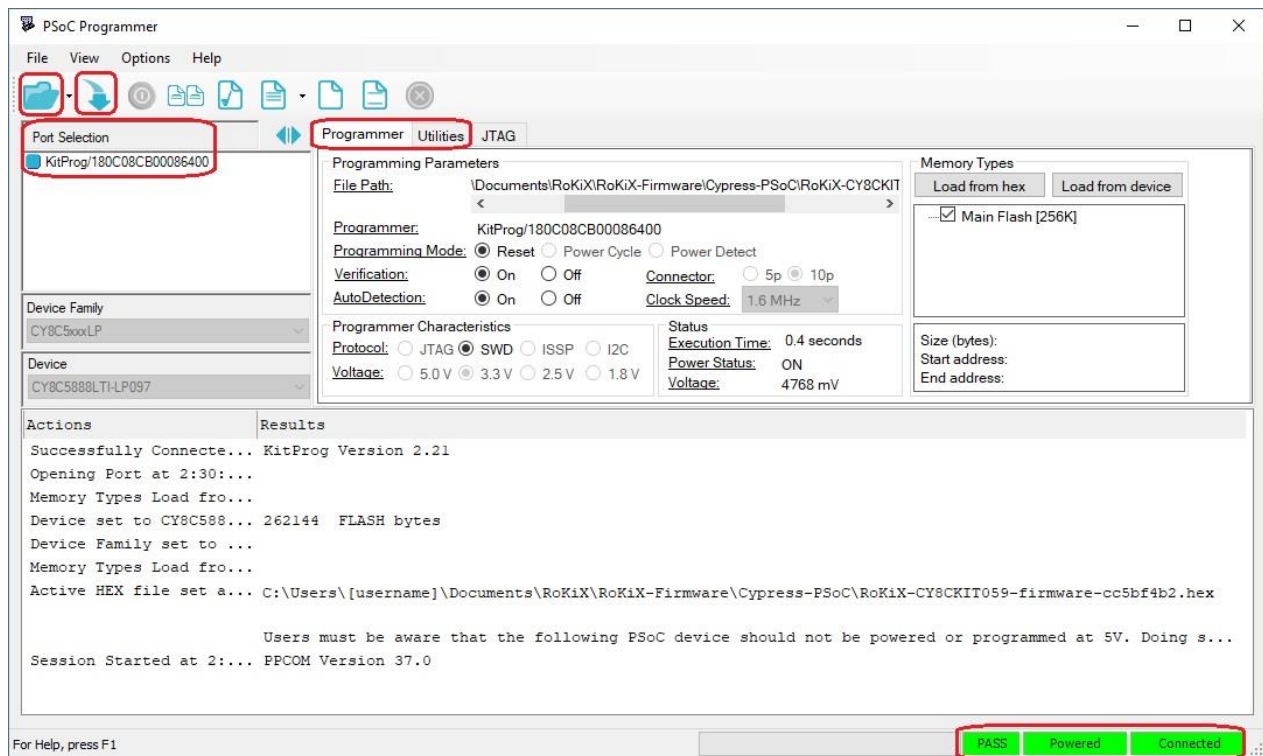

Figure 23. PSoC Programmer GUI
4. Open the *PSoC Programmer* application on your computer. Once opened, verify that Powered and Connected status messages are displayed in the status bar – the bottom right side of the window (Figure 23). If not, please verify the *CY8CKIT-059 Prototyping Kit* is properly plugged into the USB port.
5. Next, select the firmware *hex* file mentioned in the step 2 by either pressing the Open Folder button or through the menu (File>File Load) or by pressing the F4 key (Figure 23).
6. Next, flash the firmware on the *CY8CKIT-059 Prototyping Kit* by pressing the Down Arrow button or through the menu (File>Program) or by pressing the F5 key. (Figure 23)